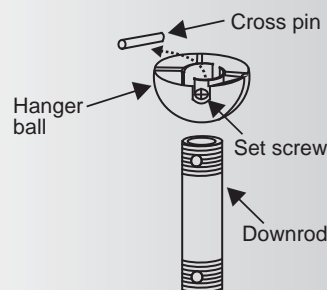

Fig. 7
Step 5. Remove the hanger ball from the downrod assembly by loosening the set screw, removing the cross pin and sliding the ball off the rod. (Fig. 7)
Thread the hanger ball onto the downrod, insert the cross pin previously removed from the ball/downrod assembly through the downrod and tighten. Now tighten the set screw previously loosened. (Fig. 7)